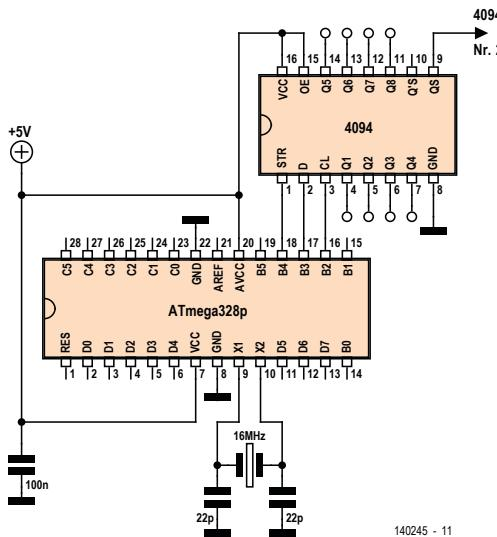

Figure 1. Connecting a type 4094 shift register.
**Figure 1** shows the connections to the Uno board. The 8-bit shift register has a clock input (CL) and a data input (D). The data is applied to the D input one bit at a time, starting with the most significant bit, and a rising edge is applied to the clock input CL for each bit. The data is shifted through the individual flip-flops of the register step by step with each clock pulse. There is also the strobe input STR. When a pulse is applied to the strobe input, all the data present in the shift register is transferred to the type-D flip-flops connected to the output pins. You could also tie the strobe input to the supply voltage Vcc, but then all the intermediate results of each shift operation would appear on the outputs. By contrast, if you apply a strobe pulse after all the bits have been shifted in, you only see the final result on the outputs.